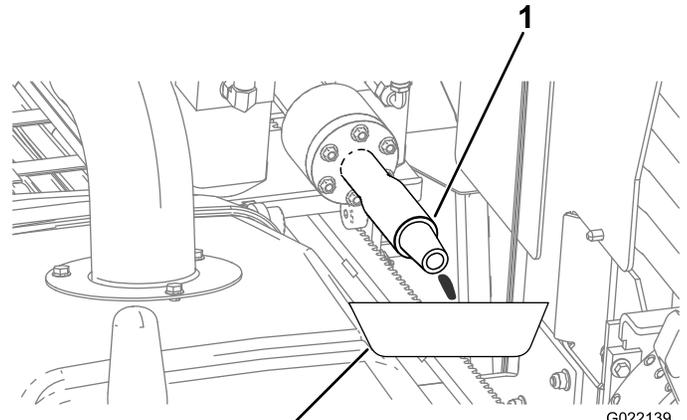

Figure 124
- A. Place a drain pan under the drill spindle for the leaked antifreeze (Figure 124).
E. When the antifreeze comes out of the drill spindle (Figure 124), turn the pump off.